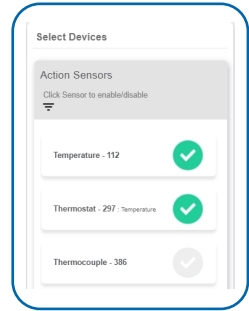

Figure 17
- By default, the sensor(s) will not be assigned to the action conditions you've just set. To assign a sensor, find the device(s) you want to designate for this action and select. Selected sensor boxes will turn green when activated. Choose the sensor box again to unassign the sensor from the action. See Figure 17.